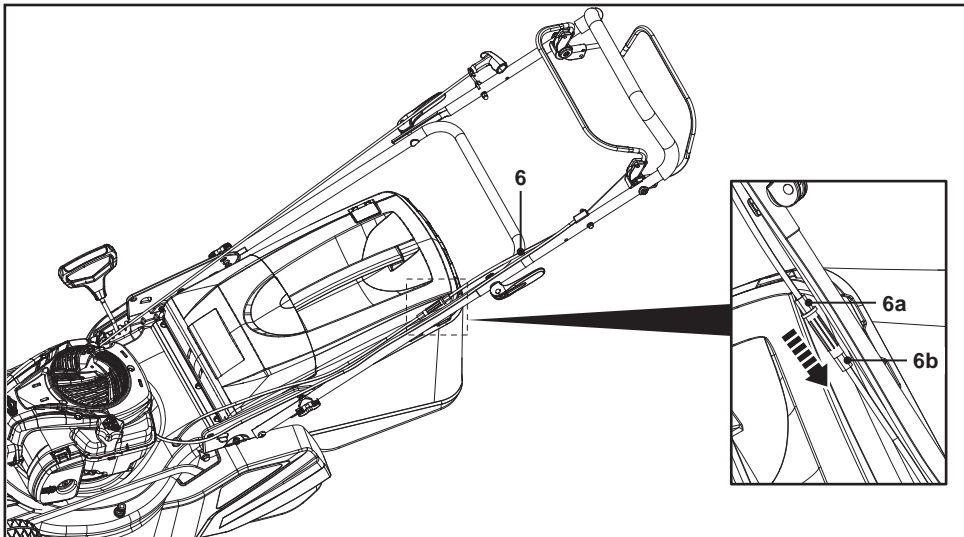

Fig. 31
**NOTE:** Adjustment of the self-propelling wire (6) may be necessary as it may stretch over time.
If the rear roller (31) do not rotate when operating the self-propelling lever (2), it may be necessary to adjust the self-propelling wire (6) (Fig. 31).